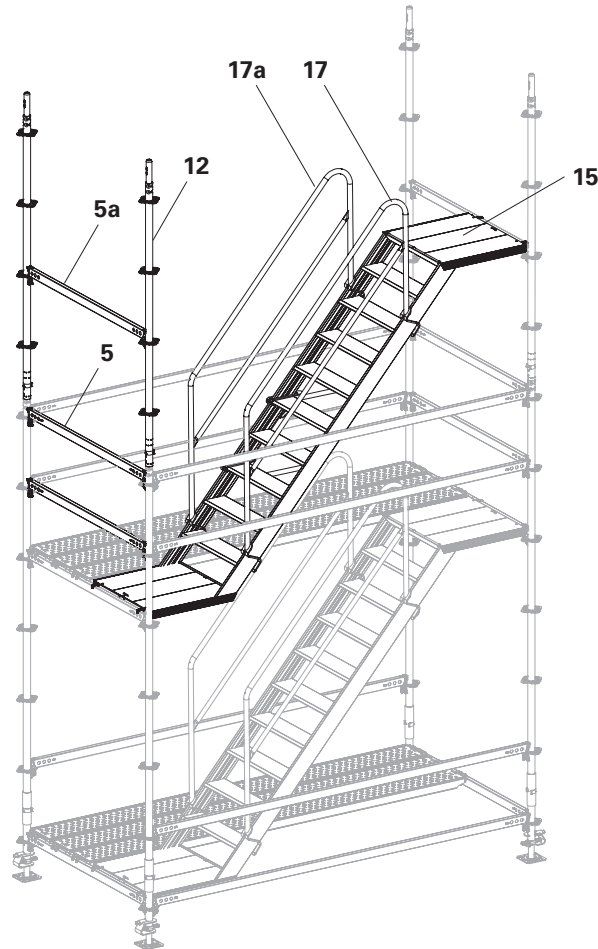

Fig. A4.02
3. Fit 2 x Stair Guardrails UAG (**17** + **17a**). (Fig. A4.02)
6. Connect standards (**12**) with Horizontal Ledgers UH-2 150 (**5a**) at a height of 2 m. Secure the wedges. (Fig. A4.02)